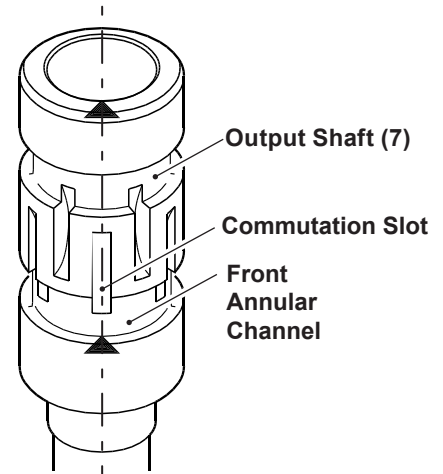

Figure 8, Output Shaft
4. The rear of the output shaft (7) must be marked before fitted into motor housing (9). The mark must be positioned vertically above a commutation slot leading up to the front annular channel. *See figure 8.*